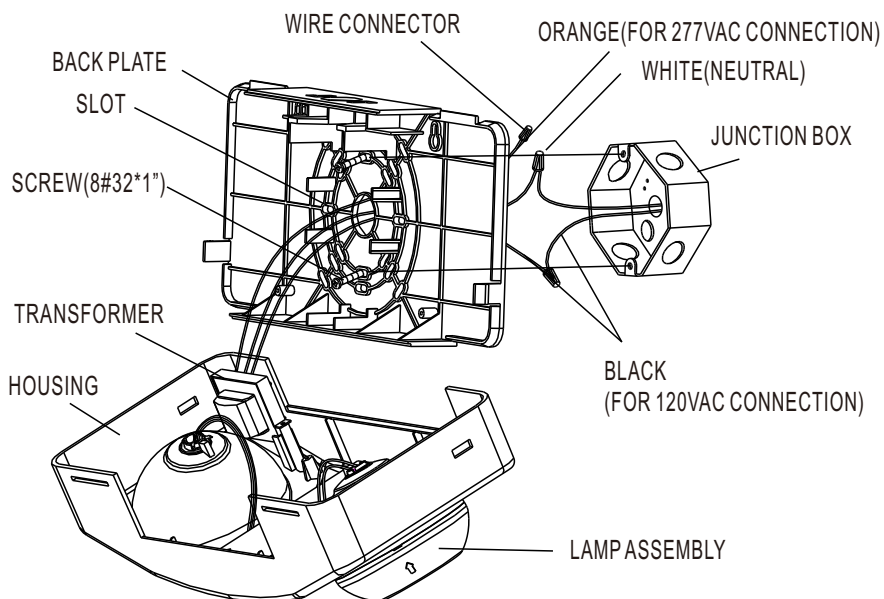

Fig.2
3. Remove the knock out hole on center and knock out slot on the back plate that corresponds to junction box holes to used. (See Fig. 2)